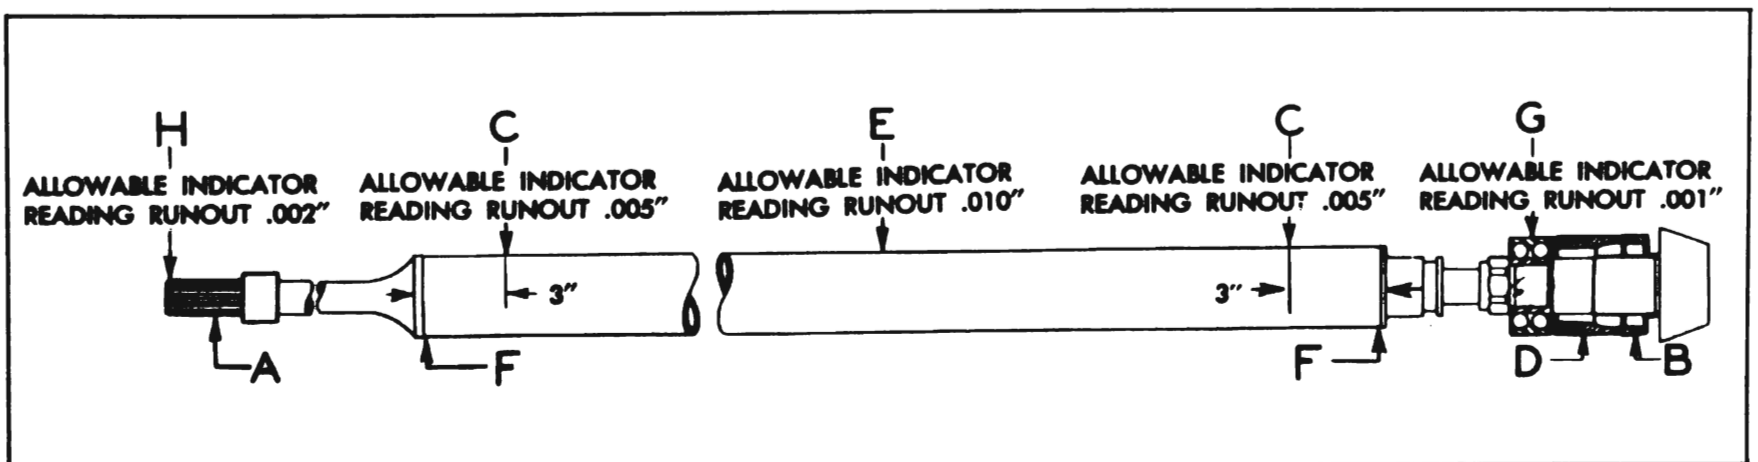

Figure 6-17—Propeller Shaft Run-Out Specifications
1. Support the assembly on V-blocks placed under the seal sleeve just to rear of splines at "A" and under the rear (roller) bearing at "B". See figure 6-17.